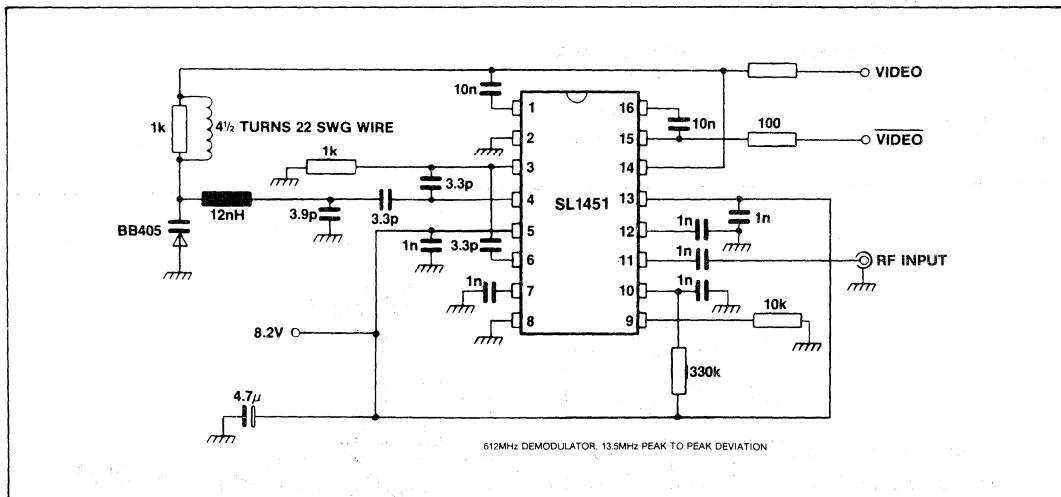

Fig.3 Typical application circuit
1. All characteristics from oscillator lock range to video bandwidth are determined by the application circuit. These results were gained with the circuit in Fig.3.